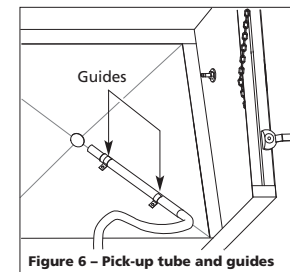

Figure 6 – Pick-up tube and guides
9. Position the end of the pick up tube in the middle of the cabinet where the blast media will be deepest. There are metal guides to help stabilize the pick-up tube (see Figure 6).